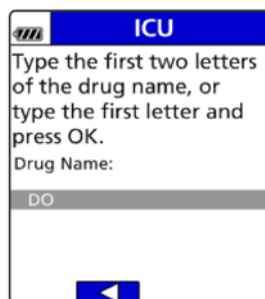

Figure 30. Drug Name Search Screen.
- Select the drug from the Drug Library using the keypad, press the alphanumeric hard key(s) labeled with the desired letter(s) to enter the first two letters of the drug name. If an incorrect letter is displayed, use the back arrow soft key to clear and reenter the correct letter. See Figure 30. All drug names beginning with those two letters appear.